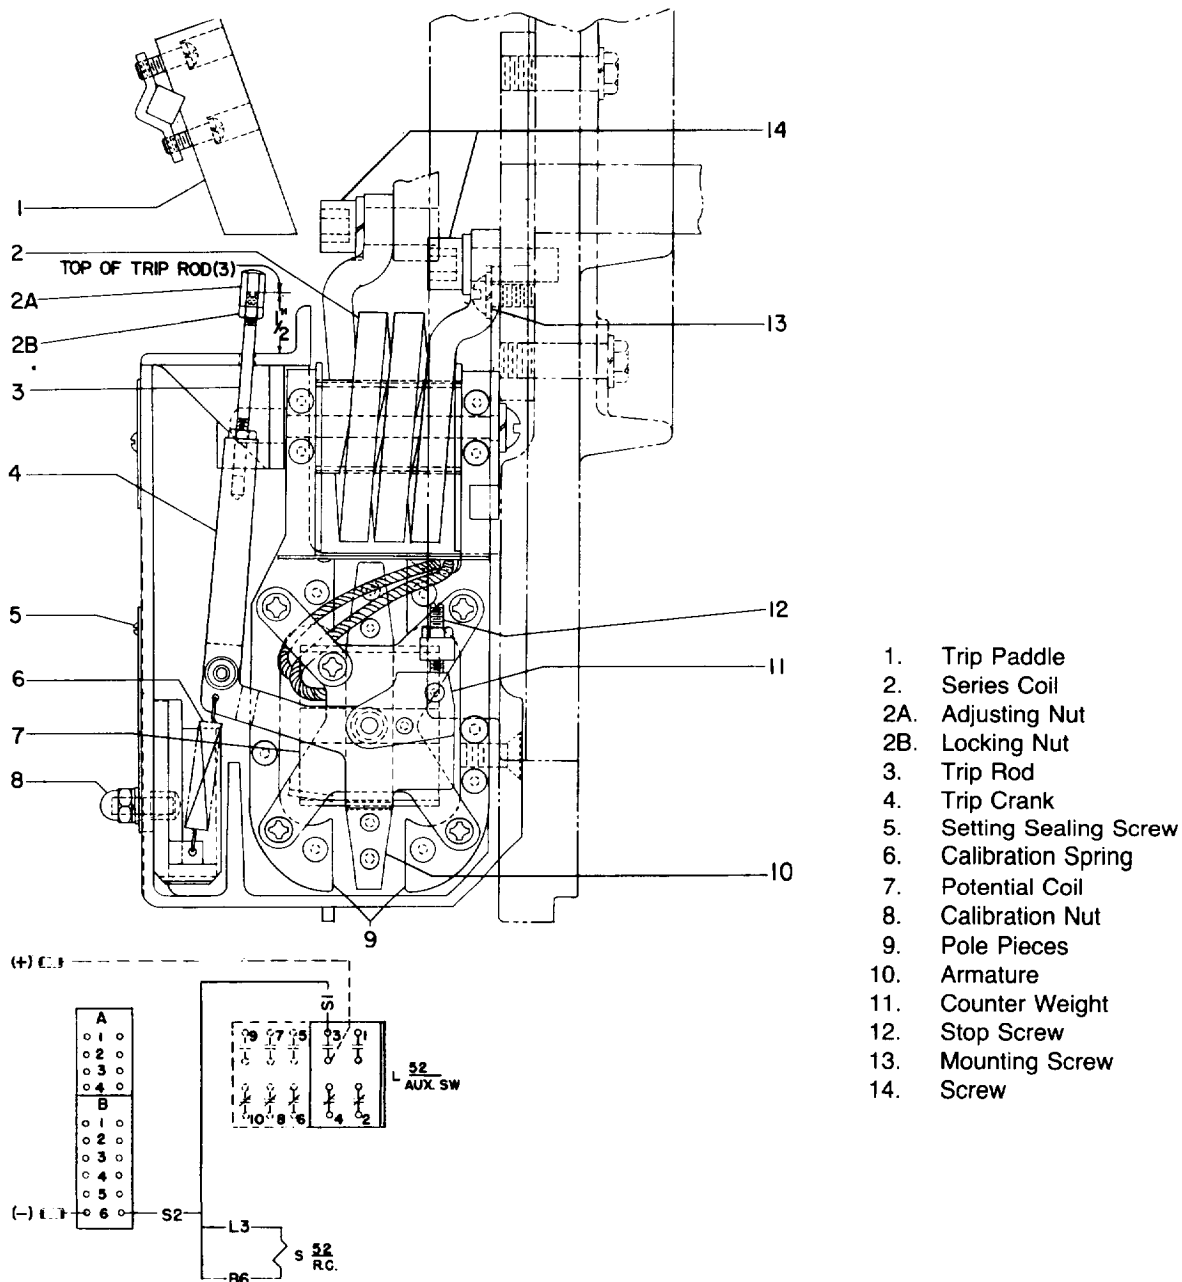

FIG. 125 ED-1 REVERSE CURRENT TRIPPING DEVICE
The reverse current tripping device (see Fig. 125) consists of a series coil (2) with an iron core mounted between two pole pieces (9), also a potential coil (7) connected across a constant source of voltage and mounted around a rotary-type armature (10). Calibration spring (6) determines the armature pick-up when a reversal of current occurs.
After removing the wiring for the potential coil the reverse current device can be removed and replaced by following the procedure outlined for replacing the series overcurrent device. See Section 15.6. For wiring, see Fig. 125.